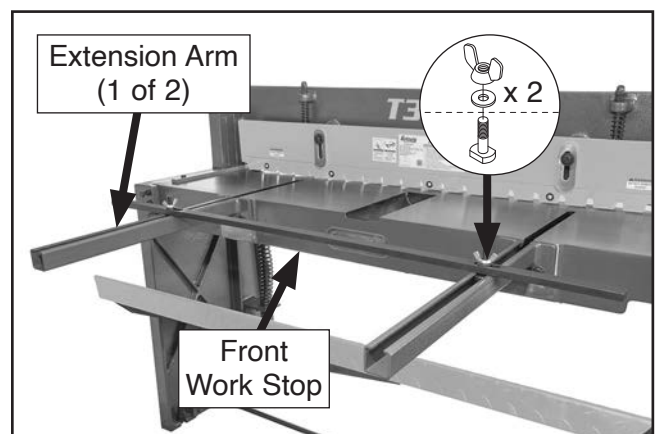

Figure 13. Front work stop secured to extension arms.
6. Install (1) M12-1.75 x 45 T-bolt in each T-slot and secure front work stop to extension arms using (2) 12mm flat washers and M12-1.75 wing nuts (see **Figure 13**).